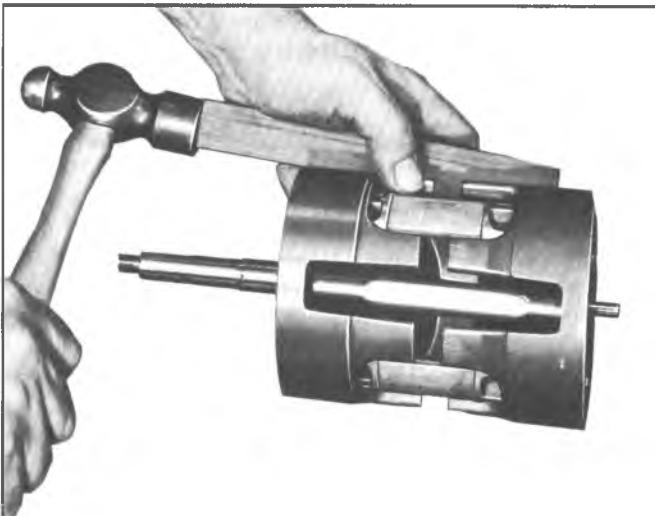

Fig. 19-Separating Cylinder Halves
3. Drive the cylinder halves apart and free from the dowel pins and discharge crossover tube using a fiber block and mallet (fig. 19). Discard the discharge crossover tube.